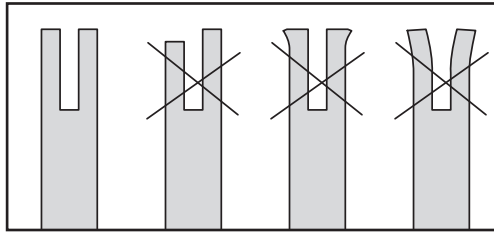

Fig. 38
- Regularly check the guide bar rail for abnormal wear. Both sides of the rail should remain at the same height when viewed along the rail edge. Abnormal wear as seen in Fig.38 indicates that the bar needs to be replaced.